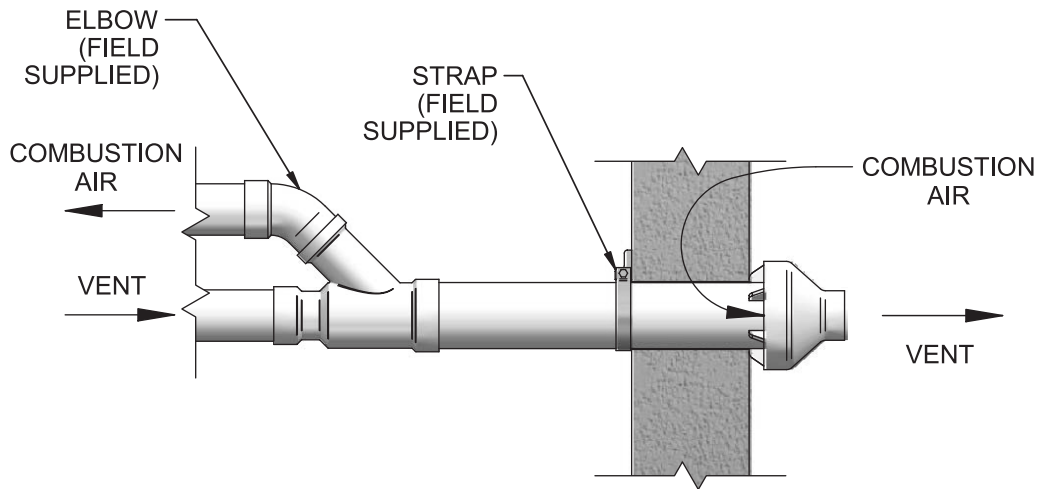

Figure 41. Concentric Vent Sidewall Attachment
7. Secure the assembly to the structure as shown in Figure 41 using field-supplied metal strapping or equivalent support material.
8. Cement appliance combustion air and vent pipes to the concentric vent termination assembly. See Figure 41 for proper pipe attachment.
9. Operate the appliance one (1) heat cycle to ensure combustion air and vent pipes are properly connected to the concentric vent termination connections.